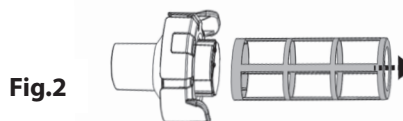

Fig.2
2. Grasp the plastic area at the base of the filter cage (DO NOT GRASP THE FILTER CAGE SCREEN). Pull to remove it from the suction nozzle. **(Fig.2)**